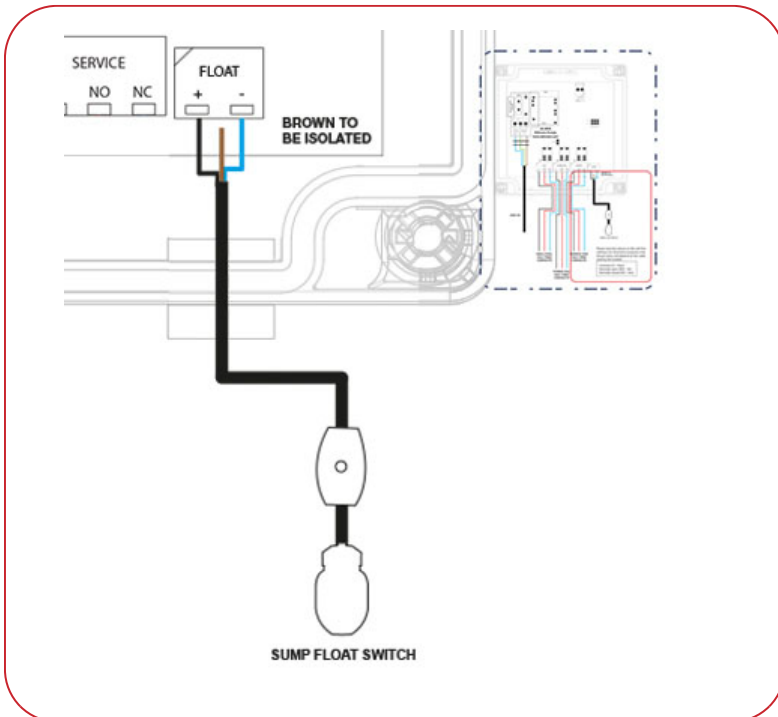

Fig.5 Connecting the sump float to the AquaSafe Alarm
3. Connect the black core to positive and the blue core to the negative terminal, **as shown in fig.5.**